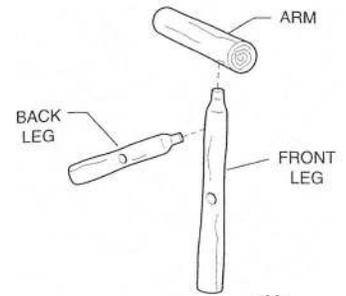

figure 2
STEP 2 Make a right leg set and a left leg set by inserting doweled end of back leg into angled hole of front leg. The drilled holes on each leg should face the same direction as shown in figure 2. Put arms onto legs by inserting doweled ends of front legs into the holes in the arms. Drive arms onto leg assemblies as far as possible.